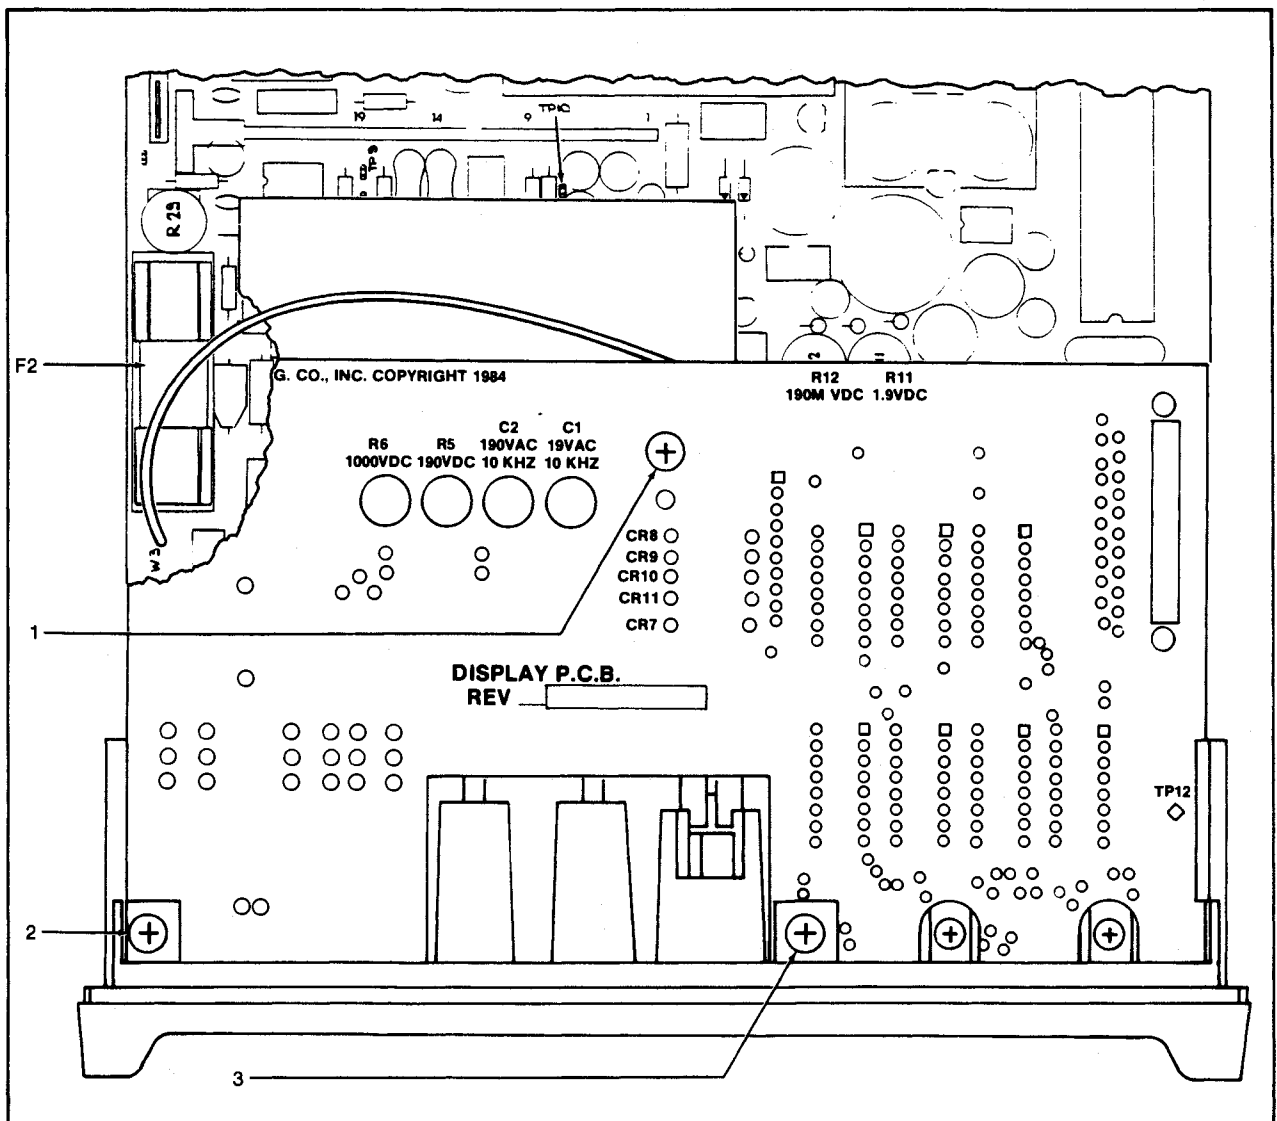

Figure 4-1. Display PCB Access
2. Using a wide flat-blade screwdriver, pry the fuse out from the fuse holder. (Refer to Figure 4-1 for the location of F2.)